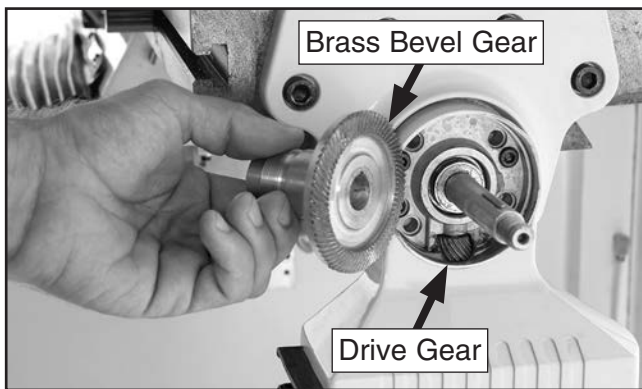

Figure 78. Power feed brass bevel gear and drive gear.
- Brush a light coat of grease on teeth of bevel gear and smaller drive gear (see **Figure 78**).